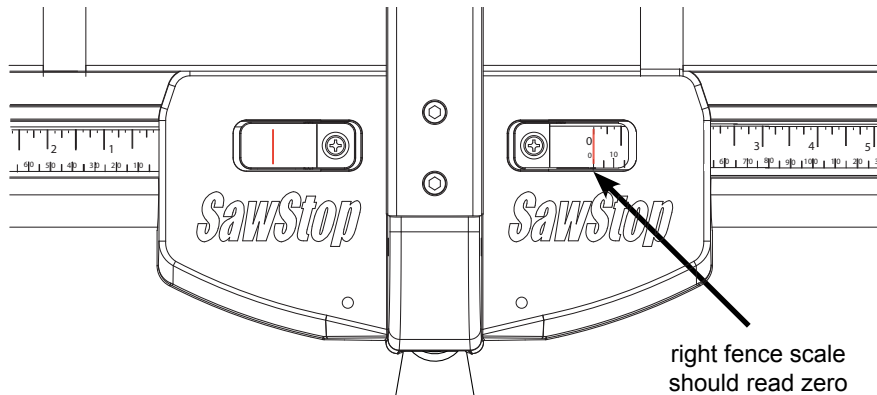

Fig. 15
15. With the fence unclamped and still against the right side of the saw blade, gently tap one end of the front rail with a rubber hammer or mallet to move the rail to the right or left until the cursor on the right fence scale is aligned with zero on the underlying ruler (see Fig. 15). Be careful to tap the front rail gently or the plastic cap at the end of the rail may be damaged. Once the right fence scale reads zero the front rail is in the correct position.